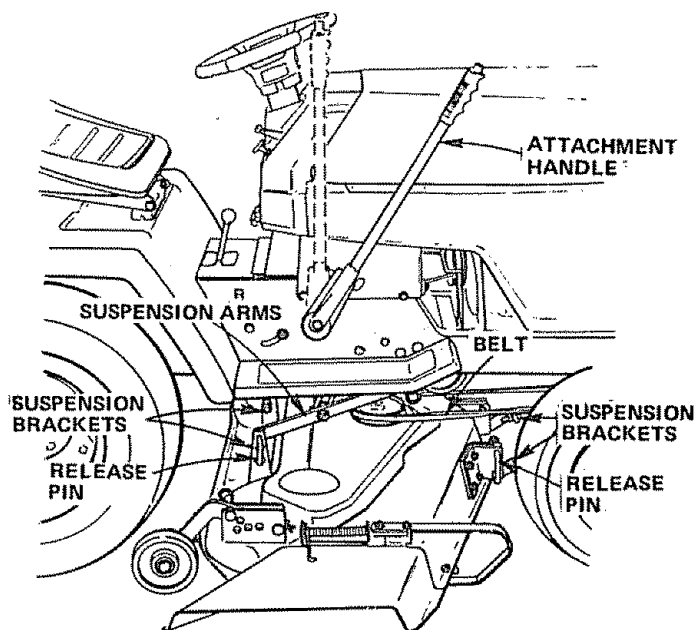

FIGURE 31
2. Pull the four (4) Release Pins out of Suspension Brackets (Fig. 31).